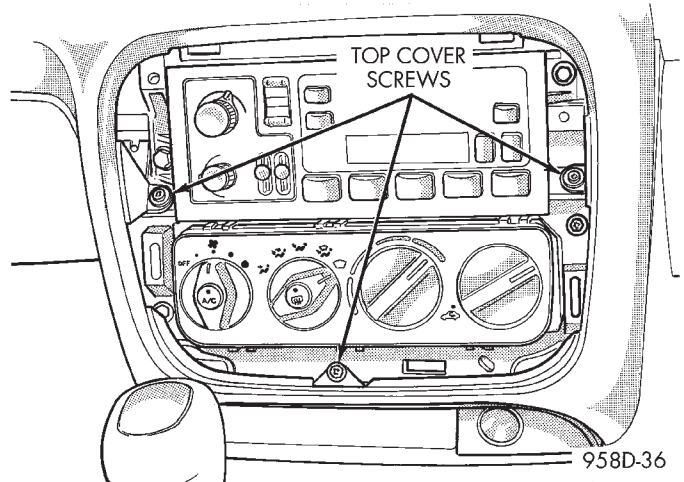

Fig. 6 Instrument Panel Top Cover Attaching Screws
(6) Remove screws attaching the instrument panel top cover to the instrument panel (Fig. 6).